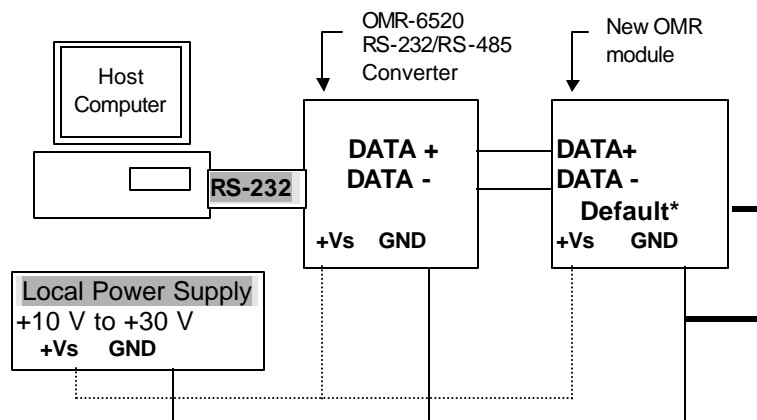

Figure 2-1 Layout for Initialization the OMR module
2. Connect a brand new OMR module with the RS-485. Set the module in *Default State* by shorting the **DEFAULT*** pin. Refer to Figure 2.1 for detailed wiring.